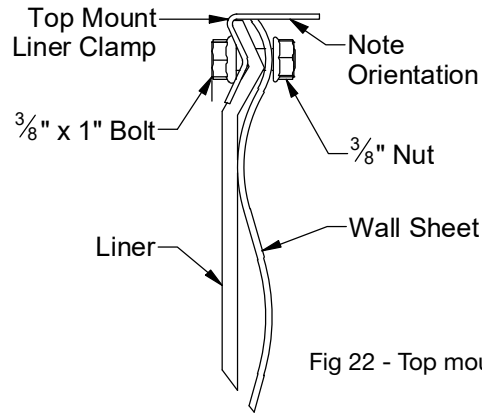

Fig 22 - Top mount liner detail
4. Use the top mount liner clamp to sandwich the liner between the clamp and the wall sheet. The clamp flange should face outwards with the "V" in the angle fitting into the corrugation valley of the wall sheet. See Figure 22.